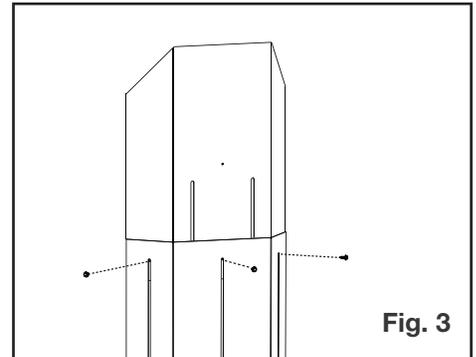

Fig. 3
3. Install the other vent shield on the opposite side of the firestop spacer (**Fig. 3**).
3. Use the fasteners in step 1 to hold the new vent shield height (Fig. 3).